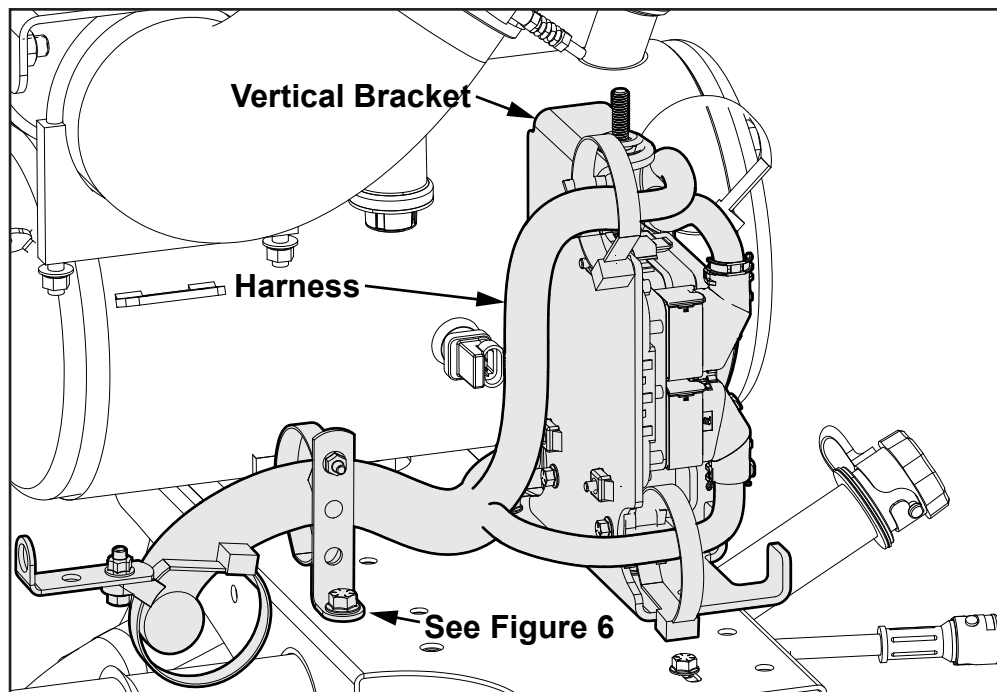

Figure 5
- Install the GZ220010-006 Three Hole Bracket and two FE410125AW12 Bolts. Install FE286225BW01 Locknut and GZ220044-001 Cable tie mount with 978435 Cable tie and FE410137AW12 Bolt. Route and secure harnesses as illustrated (see Figures 5 and 6).